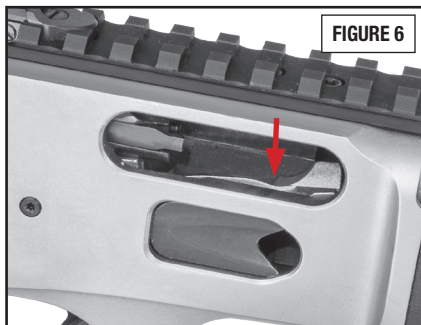

FIGURE 6
- The elevator (FIGURE 6) is visible when the bolt is open. The elevator raises a cartridge to align with the chamber when the operating lever is pulled closed.